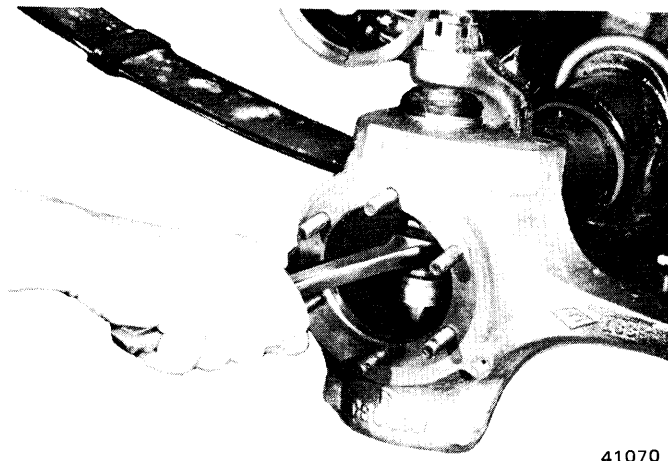

Fig. 10-6 Lower Ball Stud Nut Removal
- (1) Remove axle shaft.
- (2) Disconnect steering tie-rod end at knuckle arm.
- (3) Remove and discard lower ball stud nut (fig. 10-6).
(4) Remove cotter pin from upper ball stud and loosen stud nut until top edge of nut is flush with top of stud.
(5) Unseat upper and lower ball studs using lead hammer.
(6) Remove upper ball stud nut and steering knuckle.
(7) Remove upper ball stud seat using Nut Wrench J-25158.